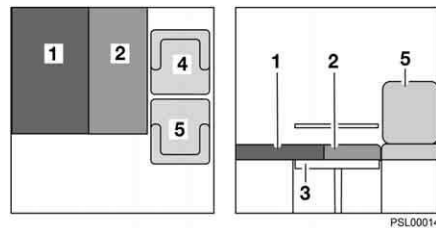

Fig. 43 After conversion
- Pull the seat cushion (Fig. 43,2) forwards onto the table.
- Place the back cushion (Fig. 43,1) on the bench.
- Push the front passenger's seat (Fig. 43,5) as far as possible to the driver's side.
- Push the driver's seat (Fig. 43,4) as near to the front passenger's seat as possible.